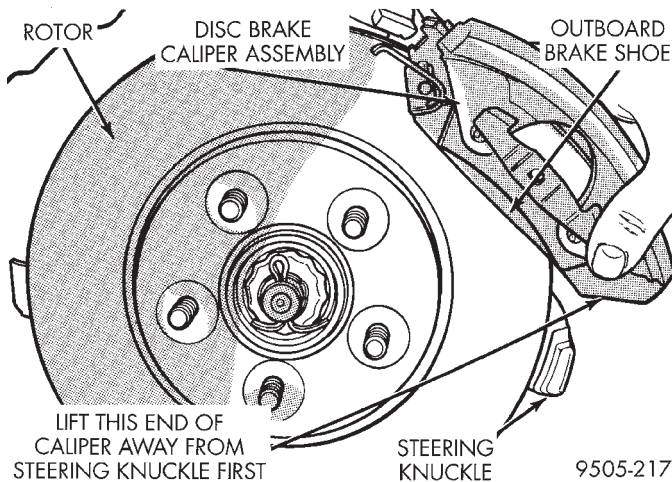
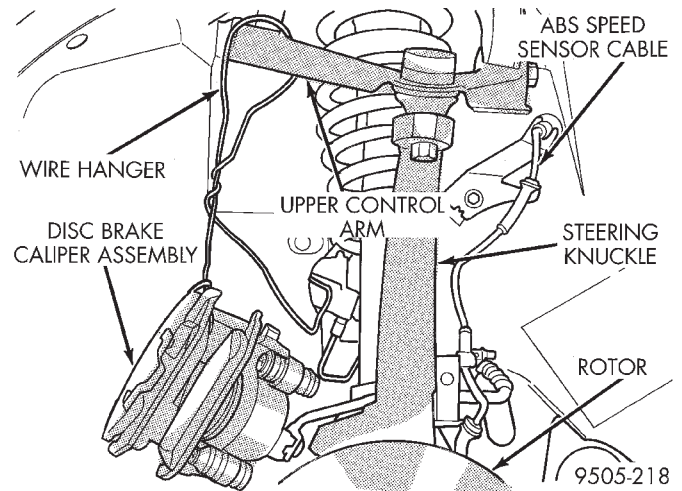
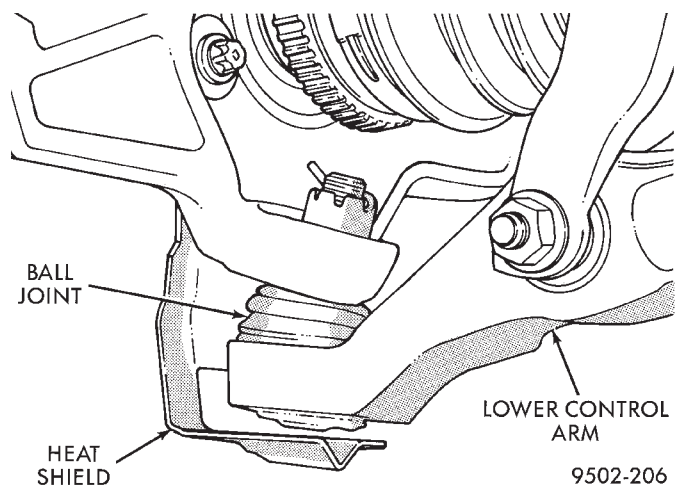
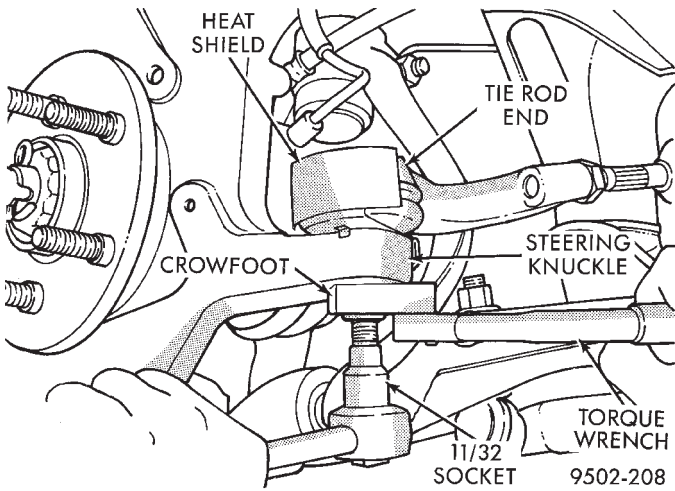

Fig. 15 Disc Brake Caliper Removal/ Installation On Steering Knuckle
Fig. 16 Correctly Supported Front Disc Brake Caliper
Fig. 17 Ball Joint Heat Shield With 15 Inch Wheels
Fig. 26 Torquing Tie Rod End Attaching Nut
(6) Remove disc brake caliper assembly from steering knuckle. Caliper is removed by first lifting bottom of caliper away from steering knuckle, and then removing top of caliper out from under steering knuckle (Fig. 15).
(7) Support brake caliper/adaptor assembly using a wire hook (Fig. 16) and not by hydraulic hose.
(8) Remove the braking disc from the front hub/bearing assembly.
(9) If vehicle is equipped with 15 inch wheels, remove lower ball joint heat shield (Fig. 17) from lower control arm. **Heat shield must be removed before attempting to separating ball joint stud from steering knuckle.**
CAUTION: When installing tie rod on steering knuckle the heat shield (Fig. 26) must be installed. If heat shield is not installed, tie rod seal boot can fail due to excessive heat from brake rotor.
(6) Install tie rod end into the steering knuckle. Start tie rod end to steering knuckle attaching nut onto stud of tie rod end. While holding stud of tie rod end stationary, tighten tie rod end to steering knuckle attaching nut (Fig. 17). Then using a crowfoot and 11/32 socket tighten the attaching nut to a torque of 61 N·m (45 ft. lbs.) (Fig. 26).
CAUTION: The ball joint seal boot heat shield (Fig. 17) must be installed. If heat shield is not installed, ball joint seal boot can fail due to excessive heat from brake rotor.
(7) Install the lower ball joint heat shield (Fig. 17) on the steering knuckle.
(8) Install braking disc back on hub and bearing assembly.
(9) Install disc brake caliper assembly on steering knuckle. Caliper is installed by first sliding top of caliper under top abutment on steering knuckle. Then installing bottom of caliper against bottom abutment of steering knuckle (Fig. 15).